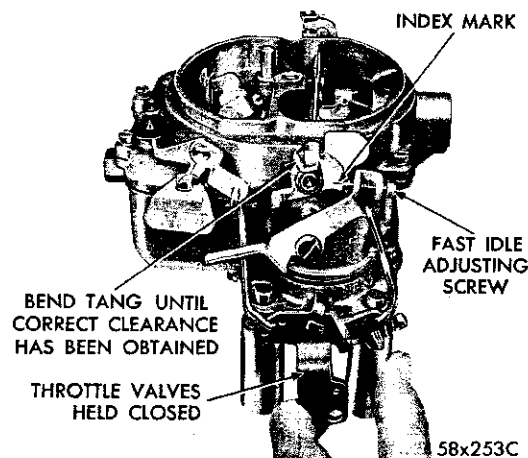

Fig. 32—Fast Idle Index Mark Aligned
(1) Open the throttle valves and hold the choke valve in the fully closed position. Close the throttle valves. This will position the fast idle cam to the fast idle position.
(2) Release the choke valve only. The index mark on the cam should split the center of the fast idle screw shank, as shown in Figure 32.
(1) With the throttle valves held closely, it should be possible to insert a .060" drill shank between the bowl vent valve and the air horn.
(2) If an adjustment is necessary, bend the short tang on the vent valve operating lever, using Tool T109-22 until correct clearance has been obtained. (Refer to Fig. 32.)